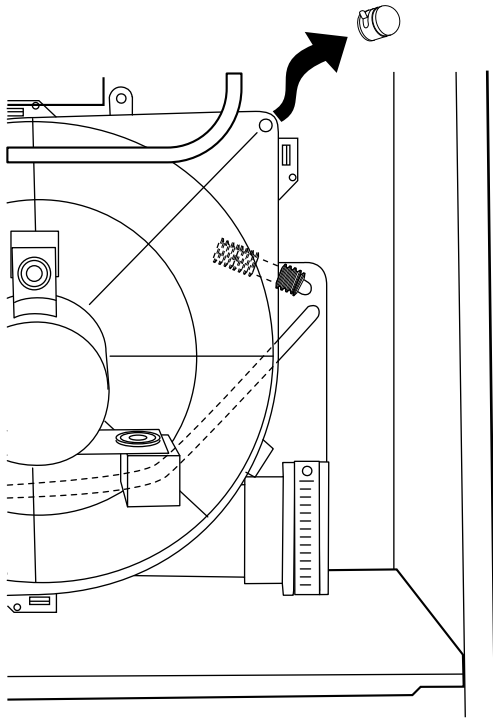

Fig. 43—Inducer Housing Drain Tube
1. Remove upper inducer housing drain connection cap. (See Fig. 43.)